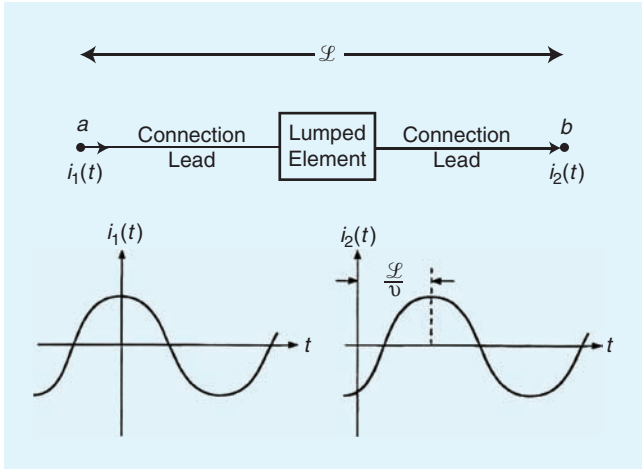
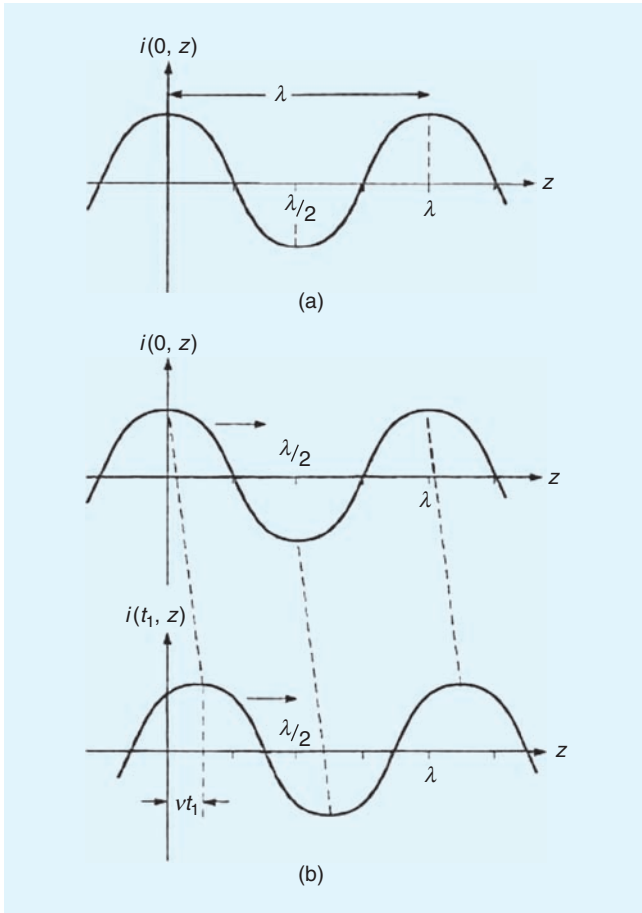

Fig. 2. Current waves on connection leads of lumped-circuit elements.
Fig. 3. Illustration of waves in space and wavelength.
In the analysis of electric circuits using Kirchhoff’s voltage and current laws and lumped-circuit models, we *ignored* the connection leads attached to the lumped elements. When is this permissible? Consider a lumped-circuit element having attachment leads of total length \mathcal{L} shown in Fig. 2. *Single-frequency, sinusoidal* currents along the attachment leads are in fact *traveling waves* which can be written in terms of position z along the leads and time t as
as illustrated in Fig. 2. These single-frequency waves suffer a *phase shift* of $\phi = \beta z$ radians as they propagate along the leads. Substituting (3) for $\beta = (\omega/v)$ into the equation of the wave in (2) gives an equivalent form of the wave as
Figure 2 plots the current waves *versus time*. Figure 3 plots the current wave *versus position in space at fixed times*. As we will see, the critical property of a traveling wave is its *wavelength* denoted as λ . A *wavelength* is the distance the wave must travel in order to shift its phase by 2π radians or 360° . Hence $\beta\lambda = 2\pi$ or